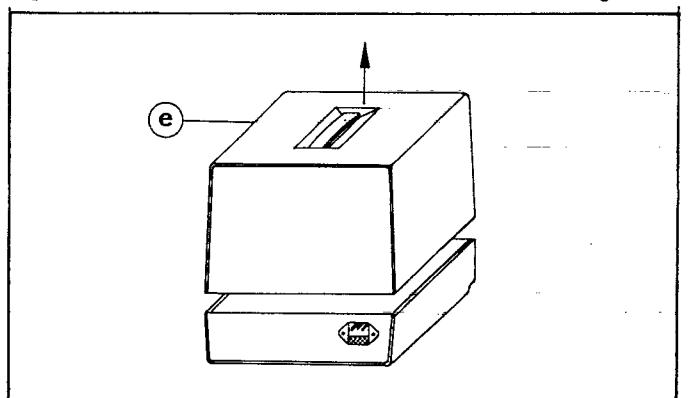

Fig. 8.2 ▼
- Place the unit in the normal position and remove upper part **e** (Fig. 8.2).